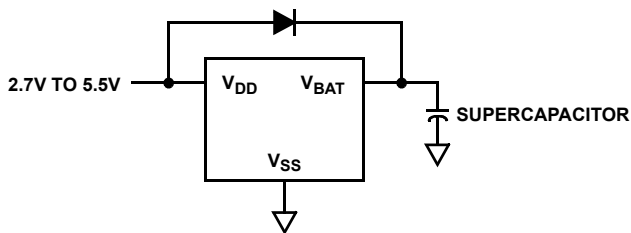

FIGURE 28. SUPERCAPACITOR CHARGING CIRCUIT
- **Mode C** - In this mode, the selection bits indicate a low  $V_{DD}$  switchover combined with no communications in battery backup. Operation is actually identical to Mode A with I2C communications down to  $V_{DD} = V_{RESET}$ , then no communications (see Figure 28).